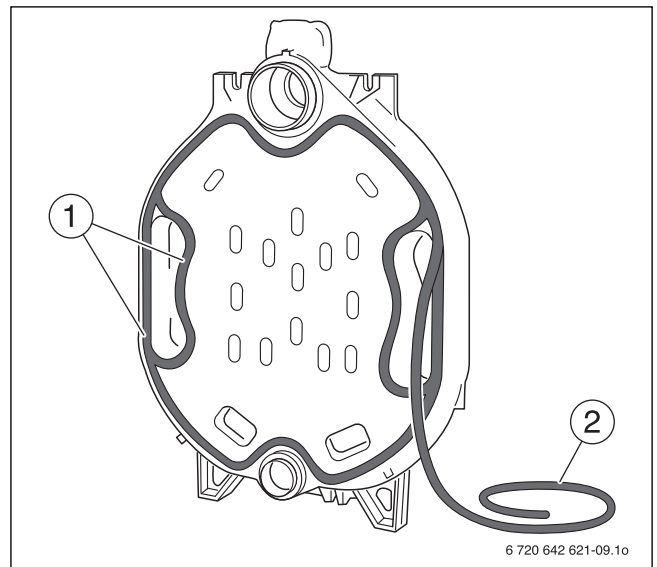

Fig. 16 Inserting sealant rope
- ▶ Insert the flexible sealant rope (→ Fig. 16, [2]) on the front of the rear section, starting around the upper hub, into the packing grooves (→ Fig. 16, [1]) and press in lightly. At the butt joints, overlap the sealant rope by approx. 3/4" (20 mm) and press firmly together.